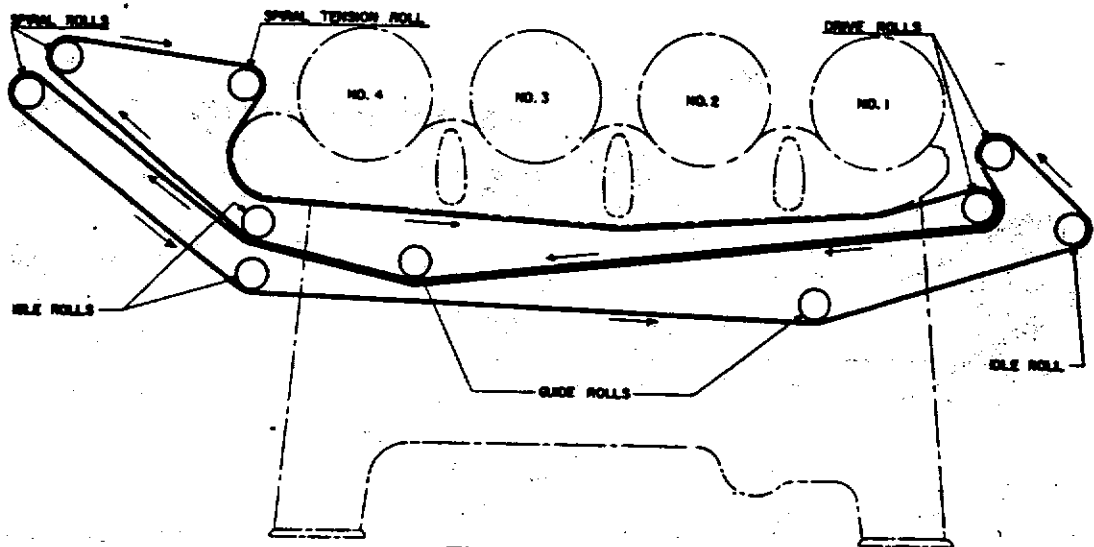

FIGURE 13
7. Installing Aprons - (Refer to Figures 13 & 14, below) - Before installing aprons, ironing pressure must be released by turning hand-wheel at feed end of Ironer, and spiral rolls must be in lowest positions in their brackets. To release pressure on 6 and 8-Roll SYLON Ironers turn hand-wheel clockwise, on 4-Roll Ironers turn counter-clockwise.